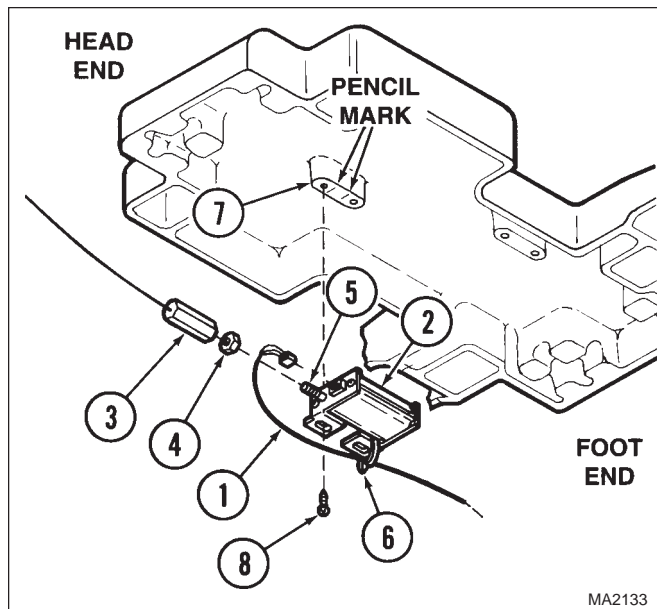

Figure 4-7. Back Transducer Removal / Installation
- (1) Press the ENABLE button and then press either the LATERAL TILT RIGHT button or the LATERAL TILT LEFT until the lateral tilt function reaches the end of its travel.
- (2) Disconnect wire harness (1, Figure 4-7) from back transducer (2).
- (3) While holding cable/turnbuckle assembly (3), loosen nut (4).
- (4) Unscrew cable/turnbuckle assembly (3) from transducer rod (5).
- (5) Cut cable tie (6) which secures wire harness (1) to back transducer (2).
- (6) Using a pencil or sharp object, mark the present position of back transducer (2) on the seat casting (7) by tracing the outline of the back transducer mounting brackets.